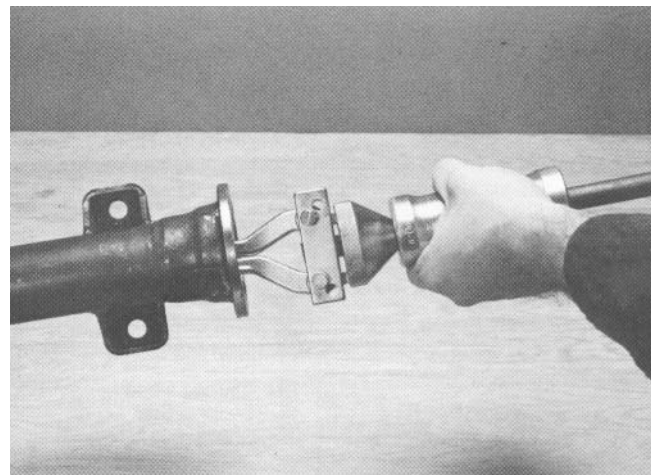

Figure 9
5. Remove and discard the inner axle shaft seal (Fig. 9).